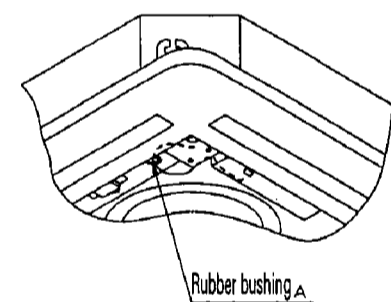

Fig.7
- Put the connector of the lead wire for signal receiver through the rubber bushing A and connect to the printed circuit board of the indoor unit. (Fig.7)